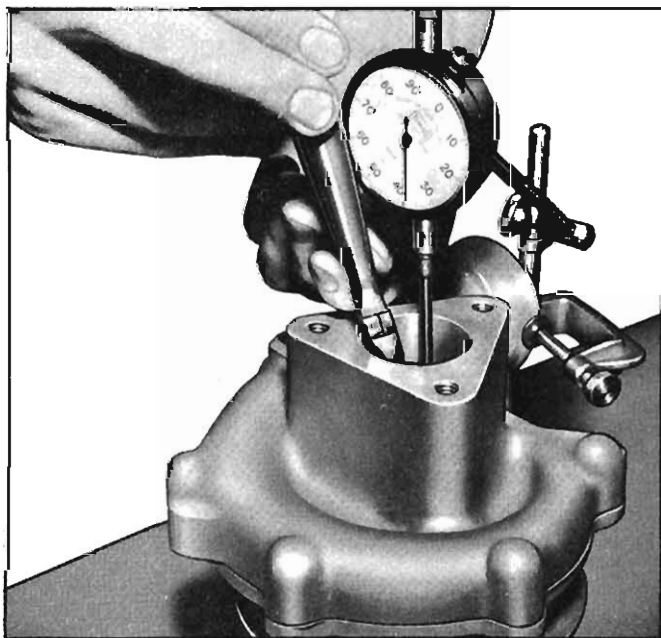

Fig. 9-50—Gauging Impeller-to-Housing Clearance
- b. Install gasket and compressor housing in place on bearing housing and install every other bolt (3). Torque the bolts to 80 inch lbs.
- c. Position a dial indicator as shown in Figure 9-50 with indicator point resting on turbine hub and set at zero.